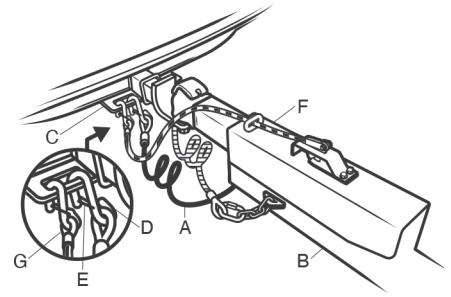

Figure 4
The right cable (A) crosses underneath the tow dolly tongue (B) and hooks to the left side of the tow vehicle permanent hitch (C), “D”-rings, frame or structure, or to the tow vehicle bumper brackets. (Figure 4) Do not attach cables to the ball or to a ball mount that is removable. The left cable hooks to the right side in the same manner. Crossing the cables under the tongue allows the minimum amount of slack for turning. The “S”-hooks (D) on safety CABLES should be hooked to attachment holes on the hitch, if present. For safety CHAINS the “S”-hooks can be hooked to the attachment holes or passed through these holes and hooked back to a link in the chain. Control safety CHAIN slack by hooking the chain back to itself or by twisting the links to shorten chain. Be sure the “S”-hooks have a functional spring clip retainer (E), or are secured with a rubber retainer. *The cables need slack to allow your vehicle to make turns. Make sure these cables attach securely to your tow vehicle and do not drag on the roadway.*
Tow Dollies with brakes have a third cable, called the emergency brake cable (F). (Figures 4 & 5) This cable applies the brakes automatically in the unlikely event of a separation of the tow dolly from the tow vehicle. Attach this cable as close to the vehicle center as possible; to the tow vehicle permanent hitch, (C) “D”-rings, frame or structure, or to the bumper brackets. The “S”-hook (G) on this cable should be hooked to an attachment hole on the hitch, if present. Be sure the “S”-hook has a functional spring clip retainer, or is secured with a rubber retainer. *Some slack is necessary to prevent the emergency brake from activating on turns or inclined driveways.*